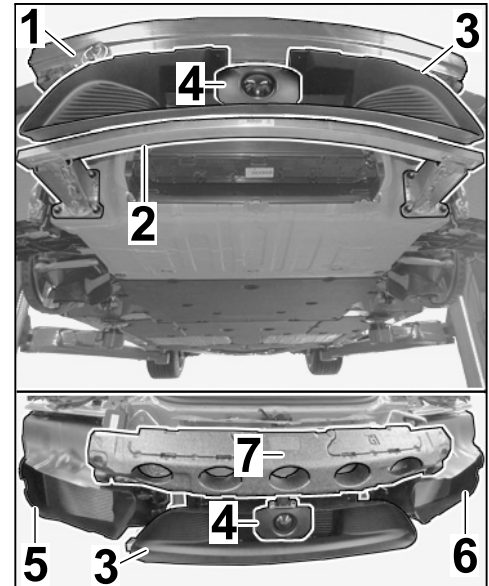

Figure 17
- 4 – Distance measuring sensor control unit (456)
- 4.1 Install pedestrian protection ⇒ *Figure 17 -2-*.
- 4.2 Install new air guide for middle radiator ⇒ *Figure 17 -3-*. ⇒ *Workshop Manual '192419 Removing and installing air guide'*
- 4.3 Install new air guide for side radiators at the right ⇒ *Figure 17 -5-*/left ⇒ *Figure 17 -6-*. ⇒ *Workshop Manual '192419 Removing and installing air guide'*.